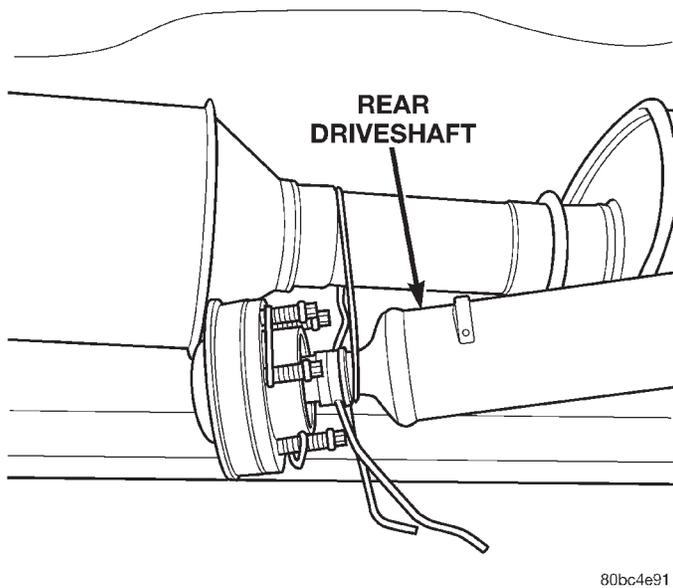

Fig. 16 Rear Driveshaft - Supported
(9) Remove the rear driveshaft retaining bolts and remove the driveshaft from the transfer case companion flange. Support the driveshaft with mechanics wire (Fig. 16).